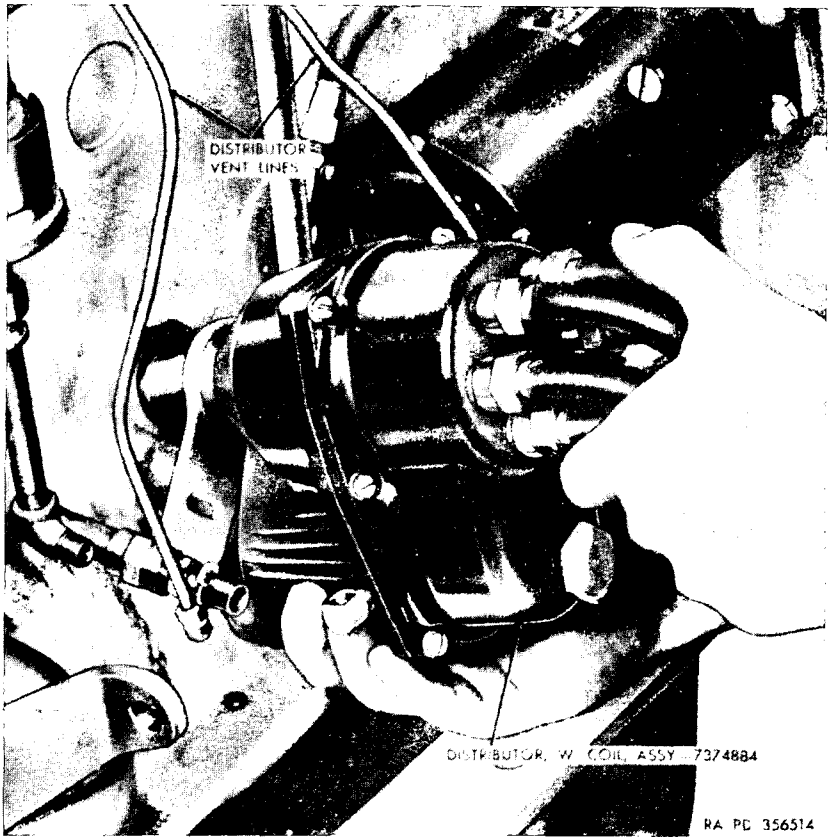

Figure 21. Removing distributor assembly.
- (3) Remove bolts securing generator to mounting bracket and remove generator.
- c. Distributor Assembly (fig. 21).*
- (1) Before disconnecting secondary cables from spark plugs, scribe a mark on the distributor housing at the No. 1 spark plug cable terminal, which will facilitate assembly as the firing order is 1-5-3-6-2-4 clockwise. Disconnect secondary cables from spark plugs.
- (2) Disconnect air vent lines at distributor.
- (3) Remove distributor adjusting lock screw.
- (4) Pull distributor from cylinder block.